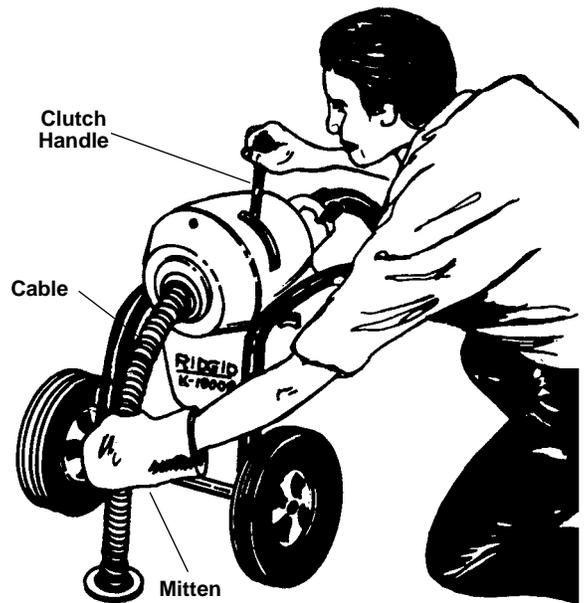

Figure 7 – Operating Drain Cleaning Machine
5. With mitted hand, push down on top of loop and pull clutch handle downward with a definite snap (Figure 7). The tool will easily pass through trap.
7. Release clutch and repeat process until obstruction or cable end is reached. Add additional cable(s) as needed one at a time. (Figure 7)